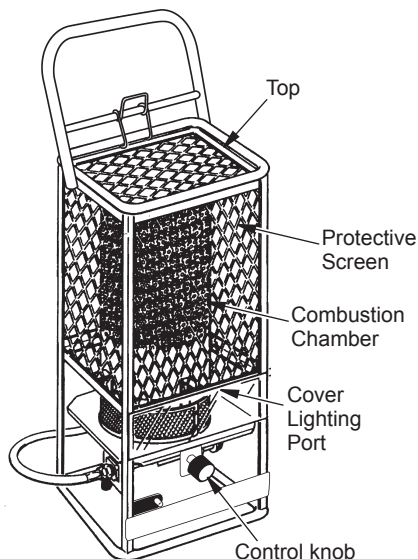
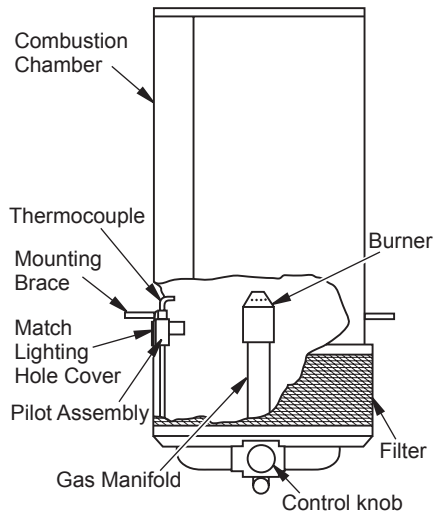

Figure 1 - Product Identification
Figure 2 - Appliance Parts Identification
3. Turn the control knob clockwise to the OFF position. See Figure 1, page 3 and Figure 2 for location of appliance parts.
- 7b. **To match light the pilot**, move the lighting hole cover aside (see Figure 2) and place a lighted match into hole. Press control knob and hold while lighting and observing pilot burner. Ensure that pilot burner ignites from match. Allow pilot to burn approximately 30 seconds before releasing control knob. If pilot does not remain lit, repeat lighting operation allowing a longer period of time before releasing control knob.